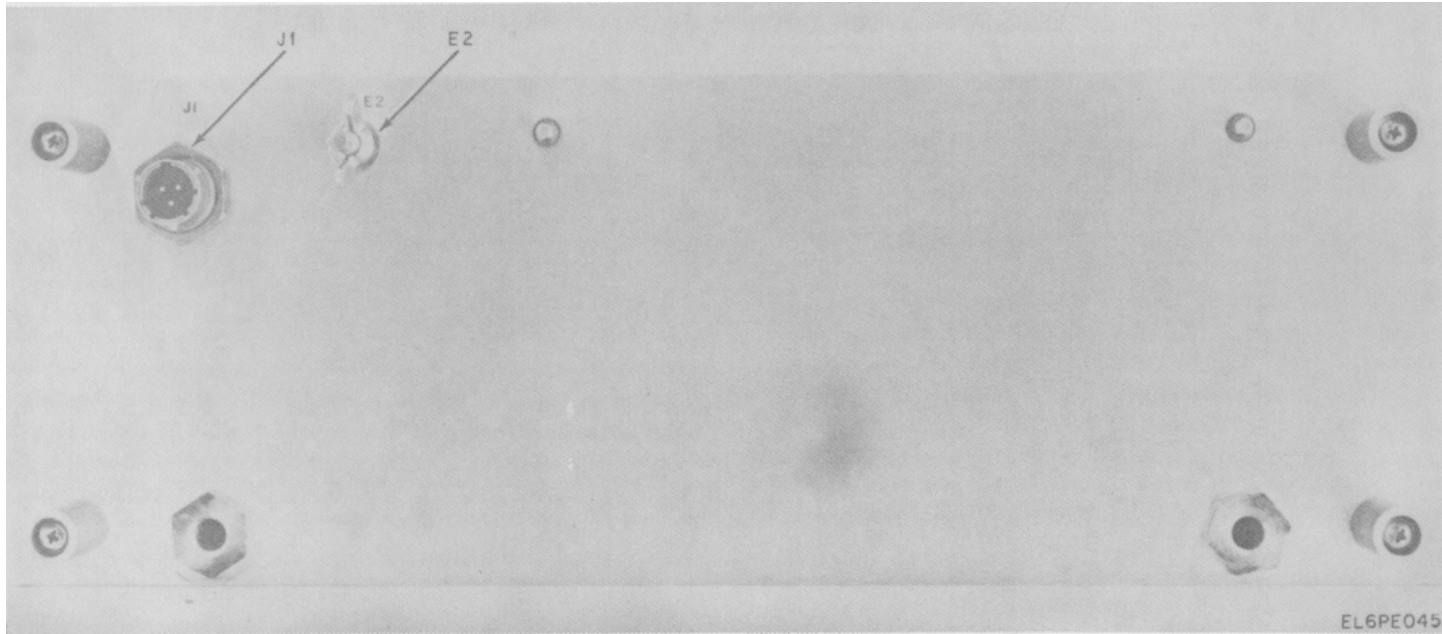

Figure 5-19. Downconverter, Rear Panel.
- d. On the rear panel, remove the power cable from connector J1 and the ground wire from terminal E1 (fig. 5-19).